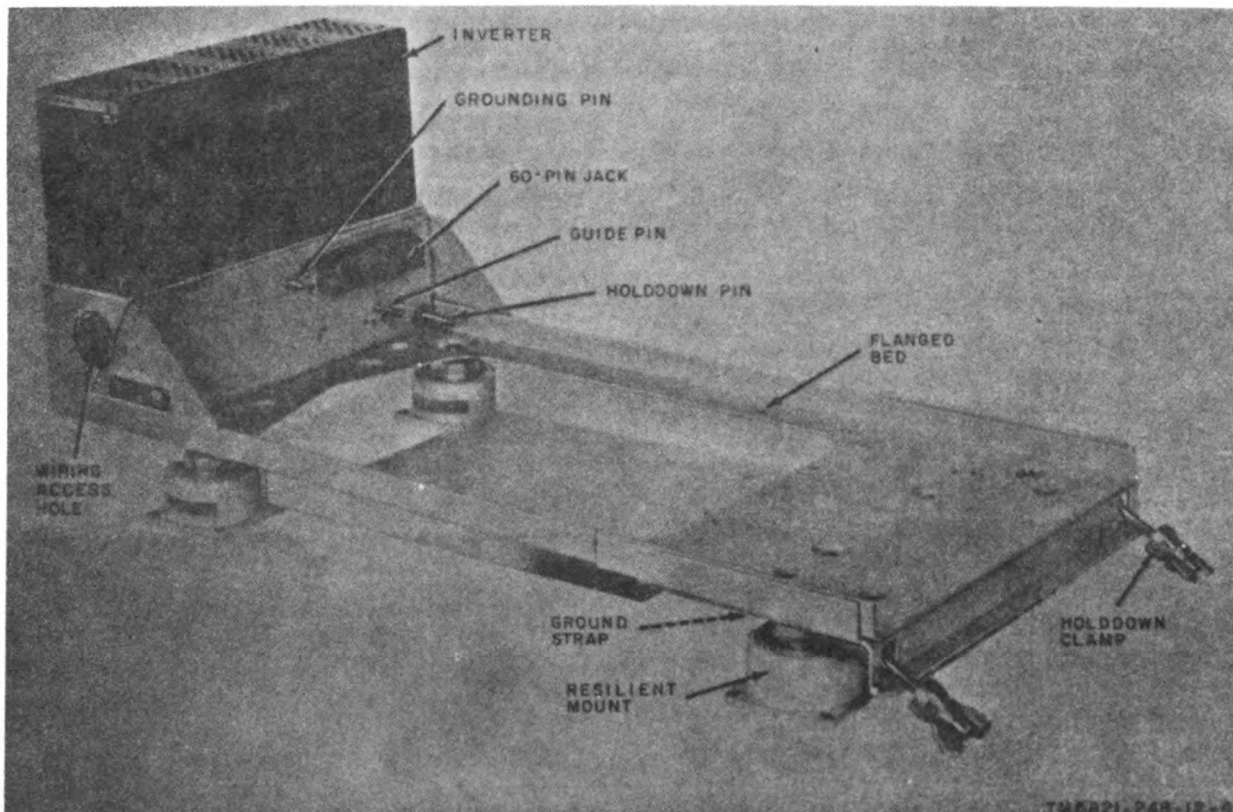

Figure 4. Power-Inverter, Mounting PP-3702/ARC-108.
11. Description of Power-Inverter, Mounting PP-3702/ARC-102 (fig. 4)